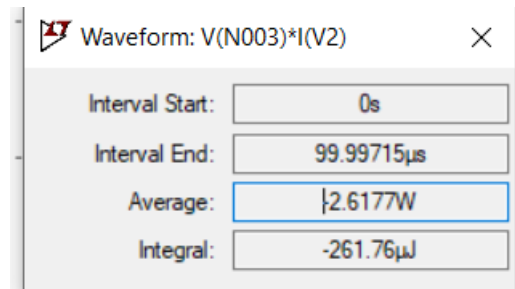

Figure 20: Average Input Power
j. Average input power of the circuit is shown in figure 20